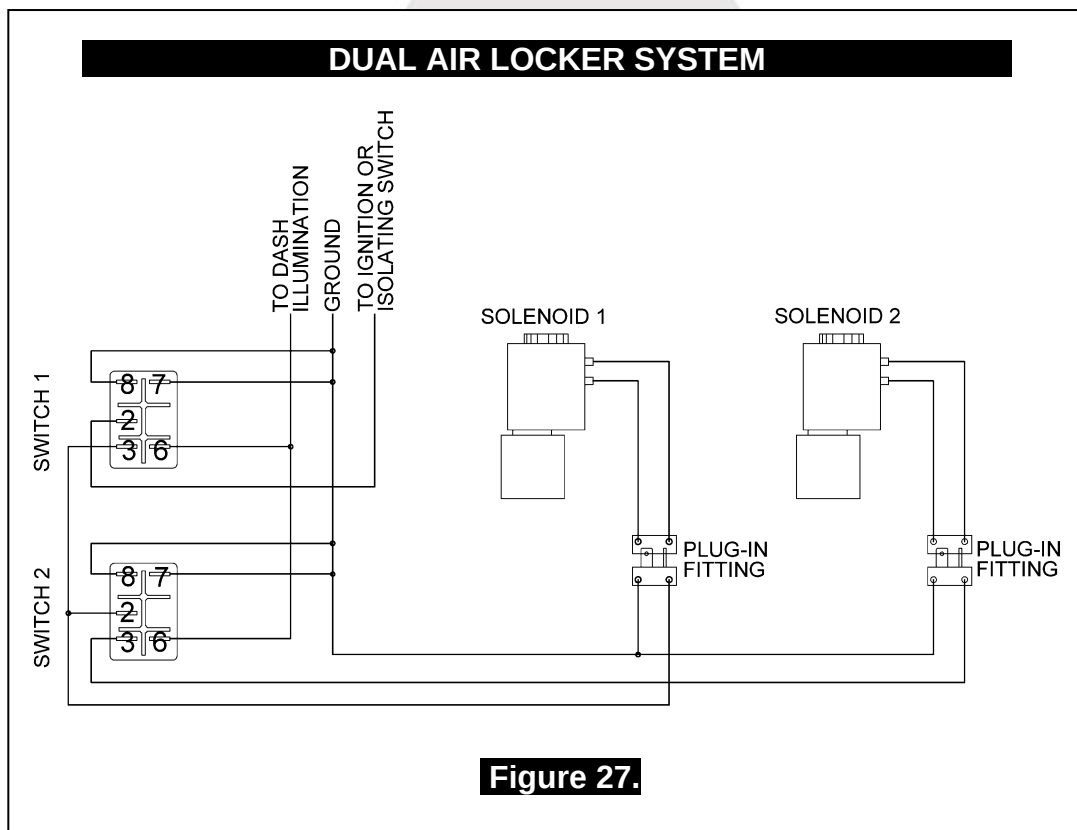

Figure 27.
- ☐ If two *Air Lockers* are to be installed in the system, ARB recommends that the switches and solenoids be wired according to figure 27. For safety reasons, this configuration allows SOLENOID 2 to be actuated only if SOLENOID 1 is already on.